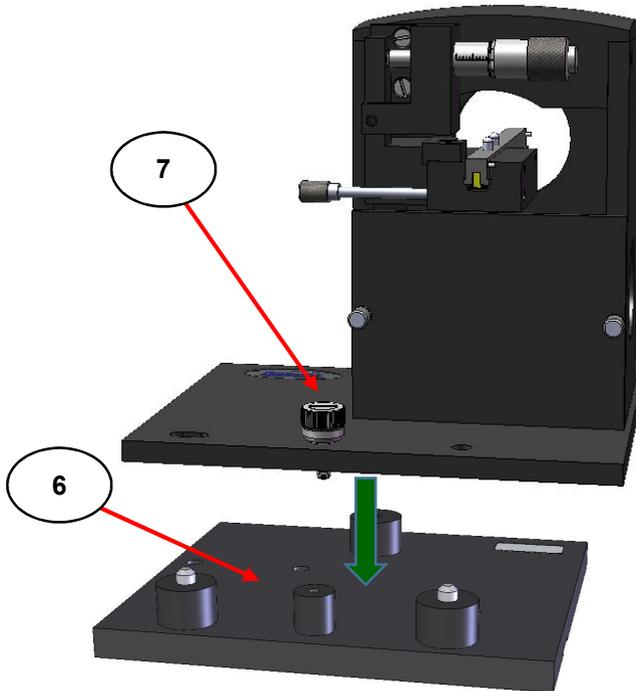

Fig 4. Minidiff Plus Accessory Fitted to a Benchmark™ Baseplate
When the Benchmark™ baseplate (6) has been installed, carefully align the Minidiff Plus accessory over the Benchmark™ baseplate and secure it in position by a simultaneous pushing down and clockwise rotation of the fixing thumbscrew (7) into the Benchmark™ baseplates (6) front central location pillar. (See **Fig 4.**)